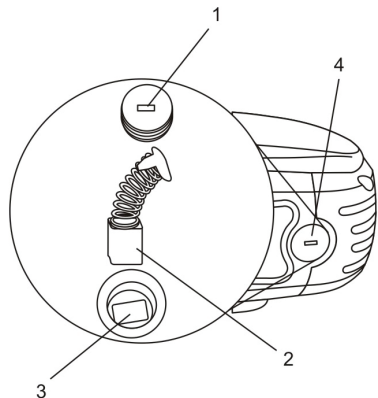

Fig. 7
1. Use a $3/16"$ / 4 mm slot screwdriver and remove one brush cap (1) (Fig. 7). Turn the brush cap counterclockwise to remove it from the motor housing.
2. Pull the spring & brush assembly (2) from the brush holder (3) in the motor housing (4).